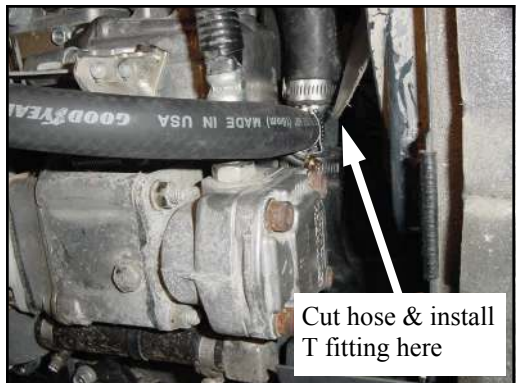

FIG 2
- C. For the return line from the heater, cut the lower radiator hose in the location shown (**Figure 2**) and install the enclosed T fitting with large hose clamps provided. Install heater hose to T with small hose clamp. **TIP: It may be easiest to completely remove the lower radiator hose to cut it and install the T. Be careful to pay attention to orientation of hose and T fitting.**
*** **CAUTION** *** Orient hose clamps so that the radiator hose and T will sit flat against the front of the engine as shown in figures 2 and 3. Bend the tails (ends) of the hose clamps in after tightening so that they will not get caught in the radiator fan. Parts getting caught in the radiator fan will damage the tractor and can cause personal injury.